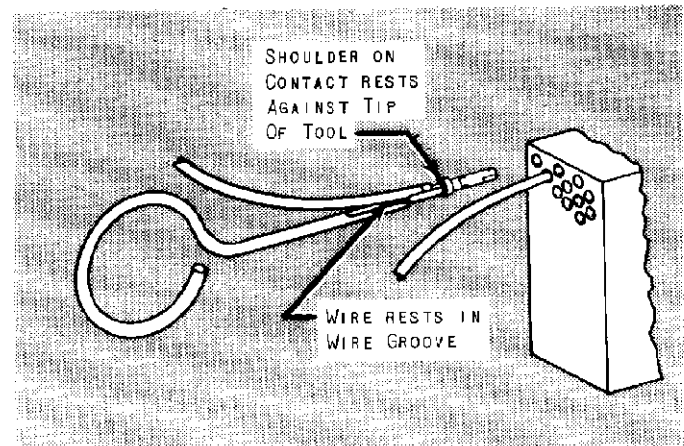

Fig. 2
- Place crimped Contact in Tip of Tool as shown in Figure 2. Note that Shoulder on Contact rests against Tip of Tool.